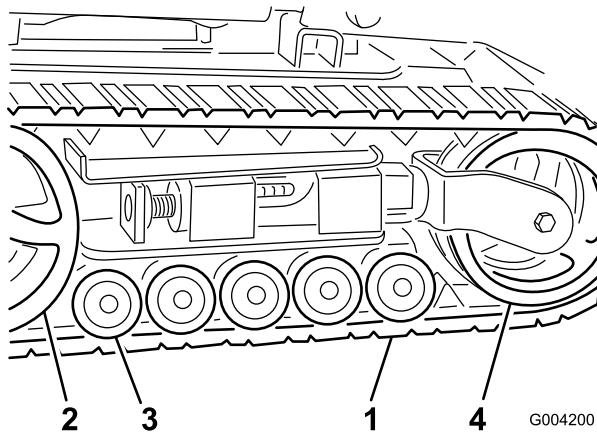

Figure 42
**Important:** Ensure that you fully clean the road wheels, the tension wheel, and the drive sprocket (Figure 42). The road wheels should rotate freely when clean.